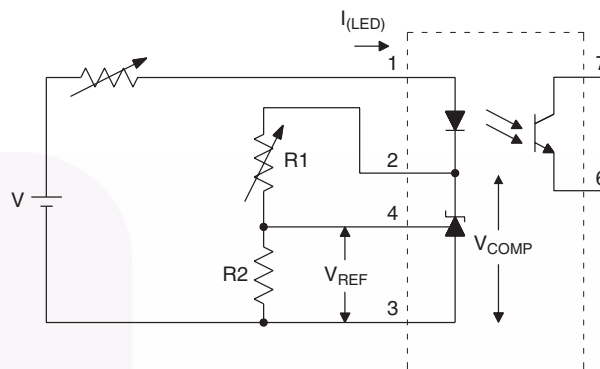

Figure 2. $\Delta V_{REF} / \Delta V_{COMP}$ Test Circuit
3. The dynamic impedance is defined as $|Z_{OUT}| = \Delta V_{COMP} / \Delta I_{LED}$. When the device is operating with two external resistors (see Figure 2), the total dynamic impedance of the circuit is given by: